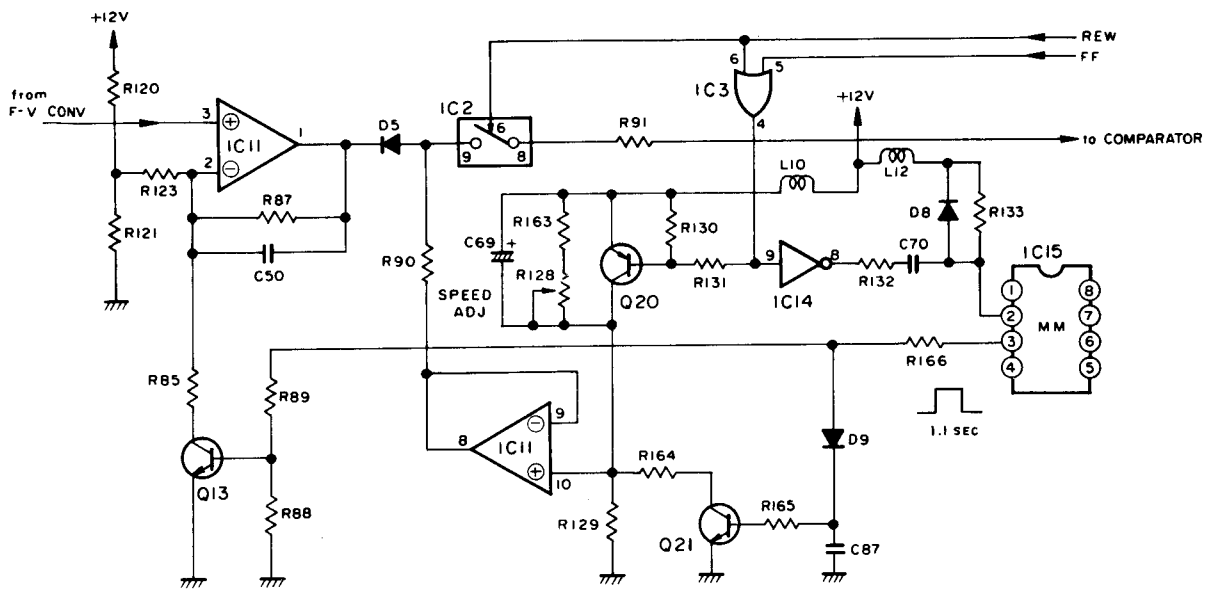

Fig. 3-62 FF and REW boost circuit
ON for approximately 1.1 second by means of the mono-multivibrator since starting the FF or REW mode. (Refer to Fig. 3-62.)
At the moment of starting FF or REW mode, Q20 becomes OFF and C69 starts charging, but, due to the fact that R164 is parallel to R129, the voltage of pin ⑩ of IC11 decreases faster than the case where there is not Q21, as shown in Fig. 3-62.